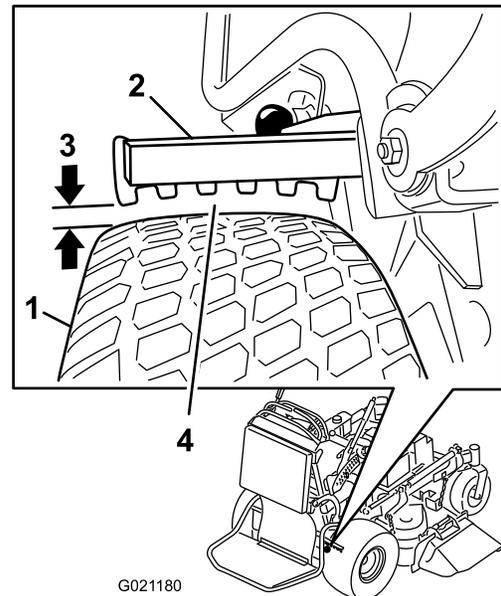

Figure 61
6. Using the side with the smallest clearance, ensure that the distance is between 3 and 6 mm (1/8 and 1/4 inches) (Figure 61). Refer to Adjusting the Brakes \(page 44\) when adjustment is needed.
5. Adjust the yoke. The distance between the brake bar and the tire needs be between 1/8 and 1/4 inches (3 and 6 mm). To tighten the brake, rotate the yoke up. To loosen the brake, rotate the yoke down (Figure 61).